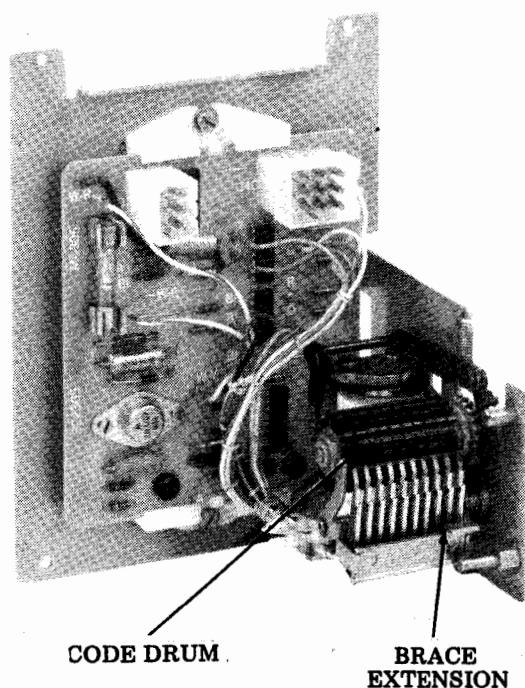

Figure 18 - Answer-Back
4.23 Remove the packing material from the answer-back unit (Figure 18) by performing the following procedures.
4.25 The answer-back drum is contained within the answer-back unit (Figure 18). If detailed coding instructions are unavailable, the instructions outlined here describe the method used to encode the drum.